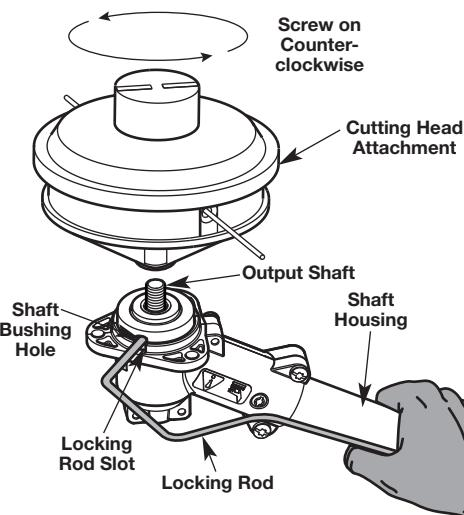

Fig. 15
- Position the cutting head attachment as shown (Fig. 15). Align the shaft bushing hole with the locking rod slot. Insert the locking rod into the shaft bushing hole.
- Hold the locking rod in place by grasping it next to the boom of the shaft housing (Fig 15).
- Fully press and release the primer bulb 10 times, slowly. Some amount of fuel should be visible in the primer bulb and fuel lines (Fig. 15). If fuel cannot be seen in the bulb, press and release the bulb until fuel is visible.